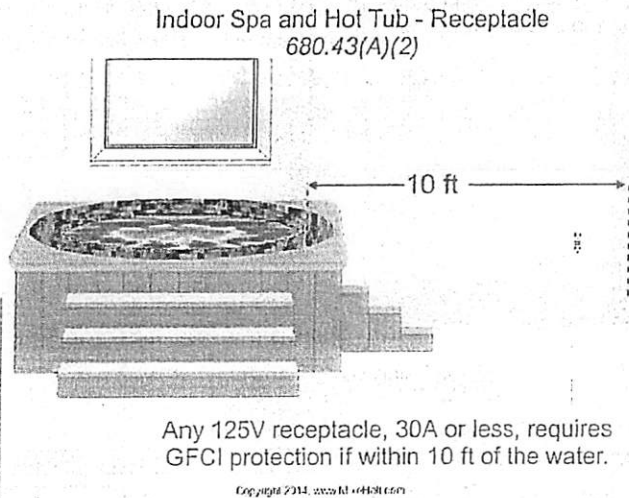

Figure 680-56
(2) **GFCI-Protected Receptacles.** Receptacles rated 30A or less at 125V, located within 10 ft of the inside walls of an indoor spa or hot tub, must be GFCI protected. Figure 680-56